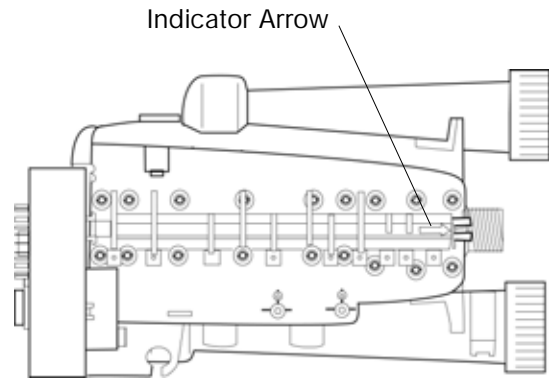

Figure 9
3. Align the indicator arrow on the rear of the camshaft with the top of the rear hoop of the top plate (Figure 9).